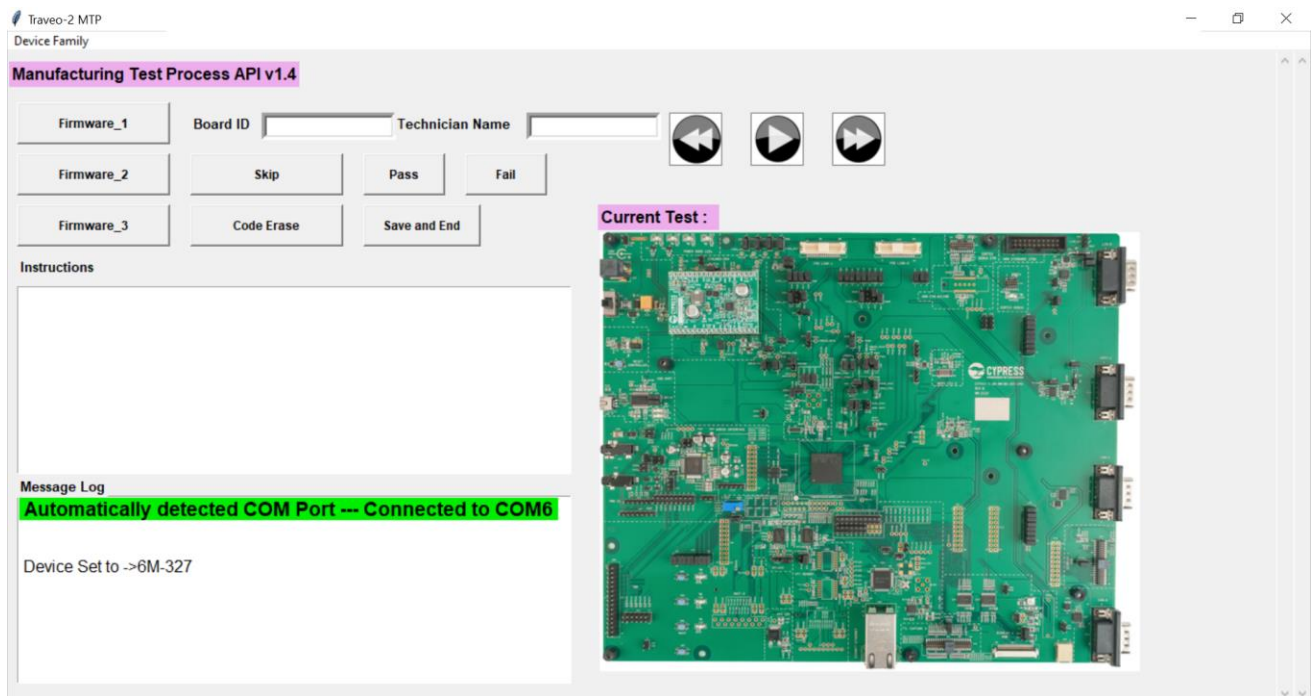

Figure 4 – Device selection menu
- Now click on “Device Family” Menu on GUI and select CYTVII-C-2D-6M -> 6M-327. Refer to Figure 4.